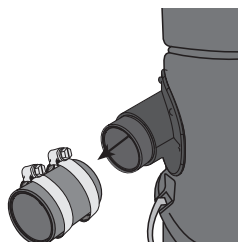

figure 4
1. Using a flat screwdriver, loosen the clamp collars and remove the rubber coupling from the left air intake (**figure 4**).